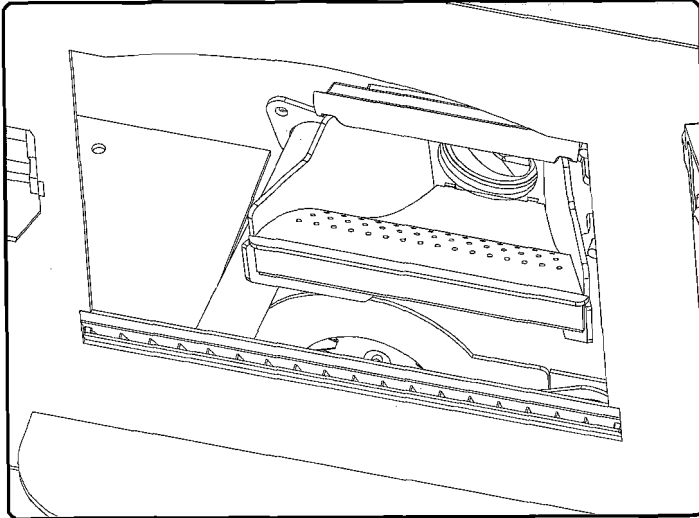

Fig. 34
1. Scrape the top holed surface and sides of the burn pot. (Fig. 34) It is not necessary to completely remove all material from the burn pot. The excess will be pushed out during the next use.
2. Loosen the (2) wing thumb screws on the lower front angle of the burn pot. (Fig. 34)